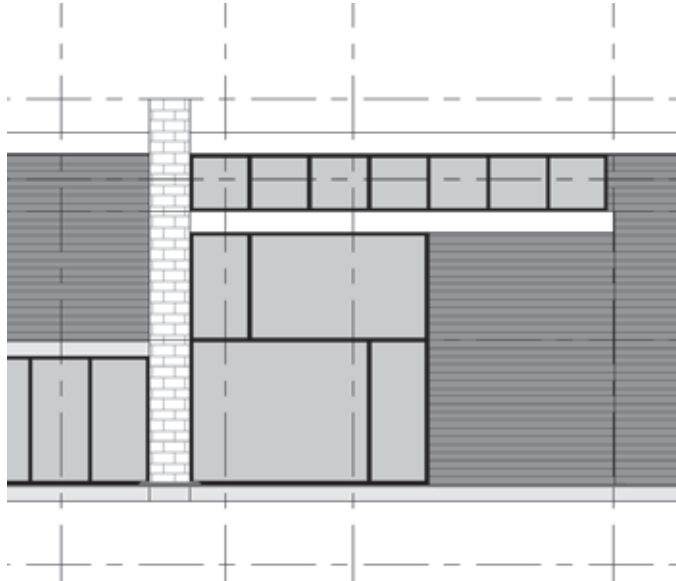

Figure 4.91
- With the curtain grid selected, click the Add or Remove Segments button located on the Curtain Grid panel on the Modify Wall tab. You can now add and remove segments of grid that span between other grids. Remove the bottom grid segment by selecting it. You'll notice that the mullions are also removed. Do the same for the adjacent grids until the picture looks like Figure 4.91 (two bottom grid segments and two top segments removed).